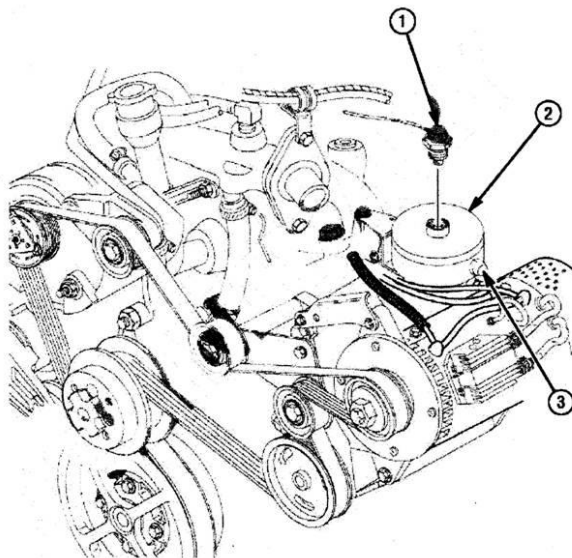

Figure 70
- ii. Refilling Power Steering Reservoir. Refer to TM 9-2320-387-24-2, Chapter 8, Task Para 8-25, Page 8-68 and **Figure 70** contained in these instructions.
- (1) Remove fill cap (1) on power steering reservoir (2) and fill with DEXRON III until fluid is in center of sight glass (3) and replace fill cap (1) as shown in **Figure 70**.